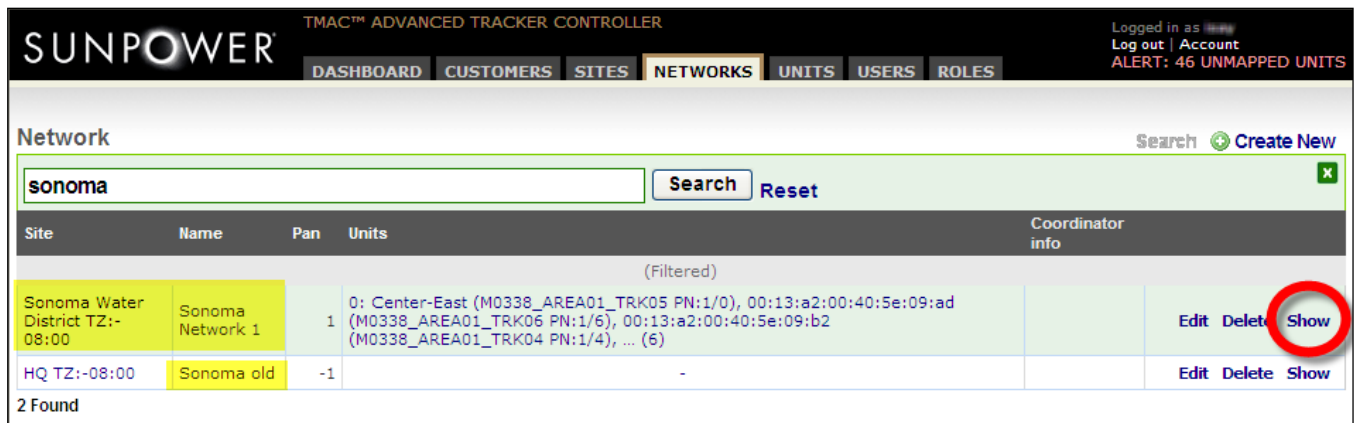

Fig. B19
- The page displays the filtered list based on the search entry (Fig. B19). The searched network or all networks in the searched site are listed on the page. Click **Show** under the last (untitled) column to display the network information for the network you want to view.